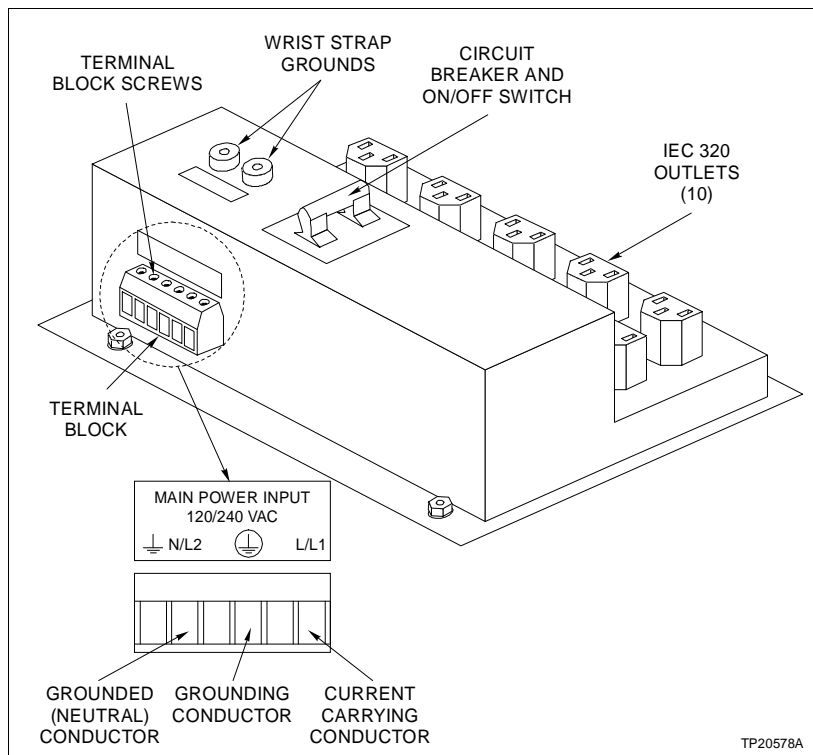

Figure PR25-2. Power Entry Panel (PEP)
- 3. Use the small-tipped flat blade screwdriver to loosen the terminal block screws (Fig. PR25-2).
- 4. Insert the wires into the appropriate locations on the terminal block as shown in Figure PR25-2.